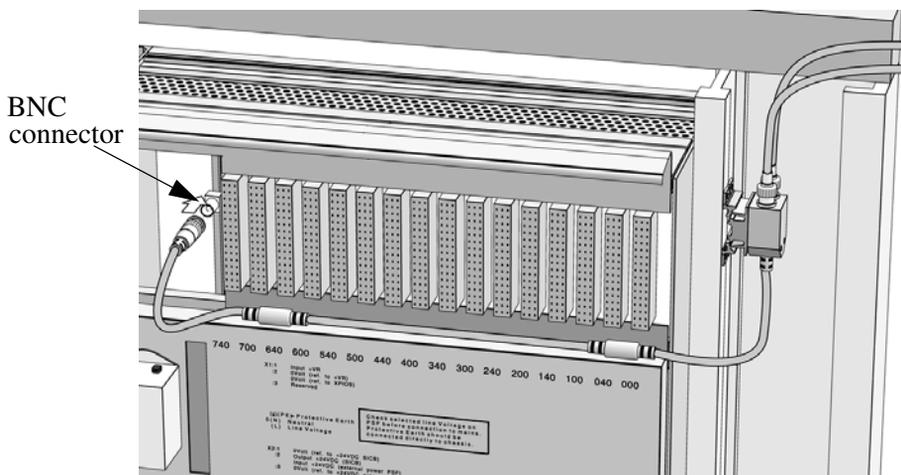

Figure 91. Mounting of the ControlNet tap and the connection to 200-RACN.
- Rack I/O - at the rear of the 200-RACN unit, see Figure 91.
2. The tap can be mounted in various ways, for example using a DIN rail or screwed into a suitable structure, see Figure 91 for an example. Even if the tap is not mounted on a DIN rail, the universal mounting bracket should be used to avoid galvanic connection to a conducting structure. For example, the tap can be mounted on the cabinet door frame on the side of the frame that is closest to the cabinet hinge, see Section “Mounting the Taps” on page 81.